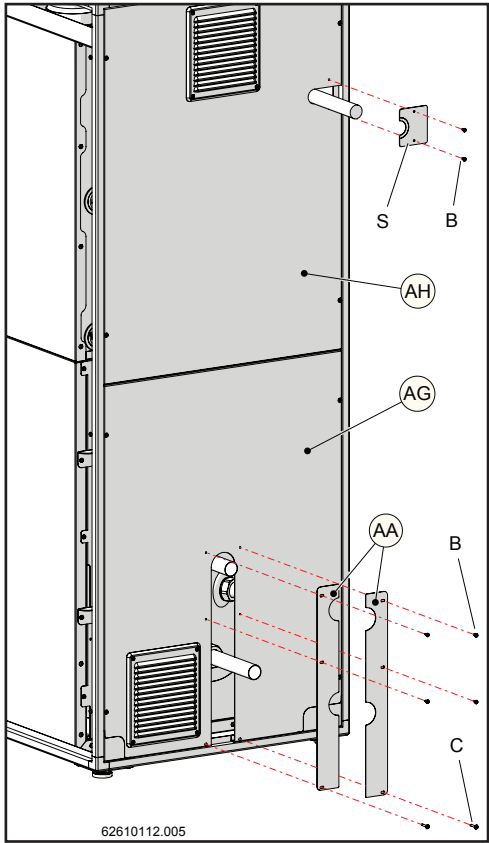

Figure 12-22
- 10.- Fit the metal plate "S" on the covering (AH) with screws "B" (figure 12-22) and fit the metal plates (AA) on the covering (AG) with screws "B" and "C" to fasten them; inserting them as shown in figure 12-22.